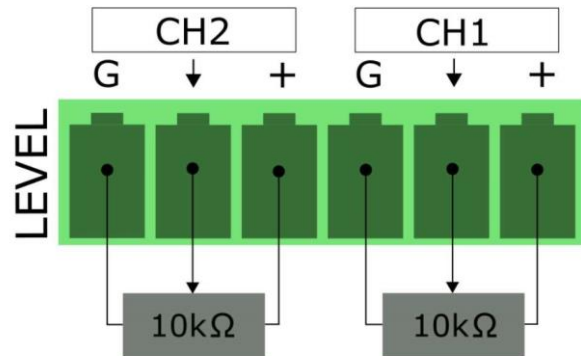

Figure 17 – Diagram of LEVEL Terminals on Amplifier.
In the Canali Series amplifiers, the three pins of the 10k Ω linear taper potentiometer should be connected to the (3) LEVEL terminals associated with the channel you wish to control (Figure 17).